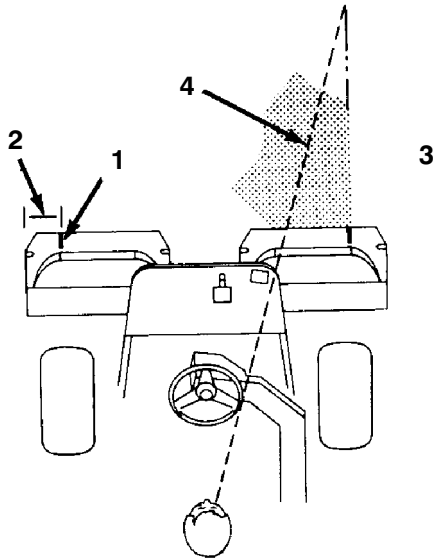

Figure 28
1. Measure in approximately 5 in. (12.7 cm) from the outer edge of each basket (Fig. 28).
2. Either place a strip of white tape or paint a line onto each basket paralleling the outer edge of each basket (Fig. 28).